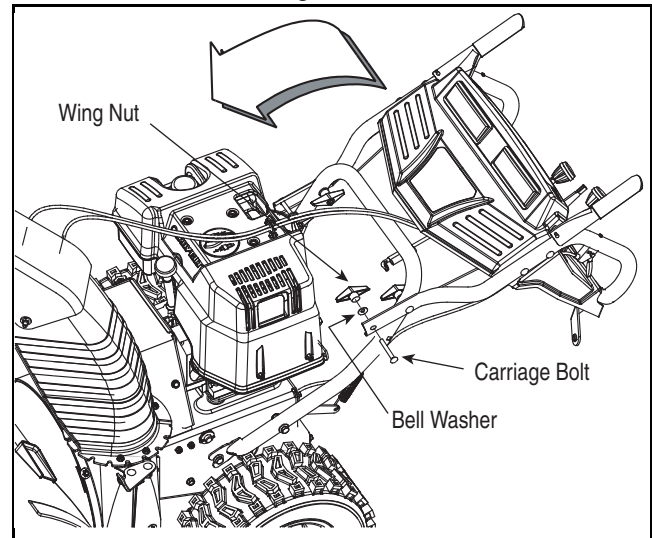

Figure 2
- Remove the **lower** plastic wing nut, cupped washer, and carriage bolt from each side of the lower handle. See Figure 2.
- Pivot the upper handle assembly forward until it locks over the lower handle. See Figure 2.